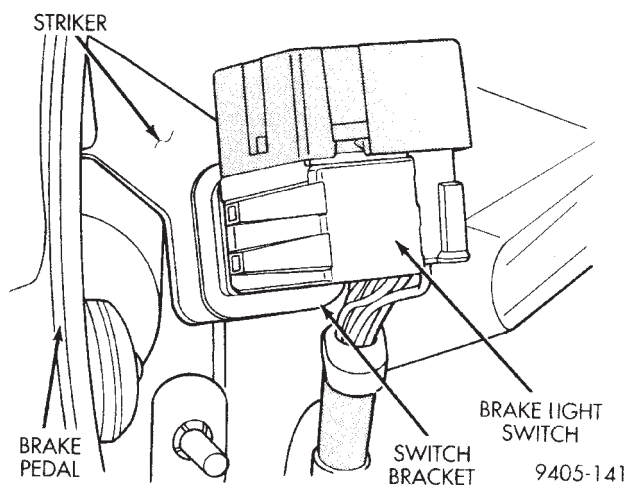

Fig. 159 Stop Lamp Switch
(1) Depress and hold the brake pedal while rotating stop lamp switch (Fig. 159) in a counter-clockwise direction approximately 30 degrees.
(2) Pull the switch rearward and remove from its mounting bracket.
(3) Disconnect wiring harness connector from stop lamp switch.
CAUTION: Do not use excessive force when pulling back on brake pedal to adjust the stop lamp switch. If too much force is used, damage to the stop lamp switch or striker (Fig. 159) can result.